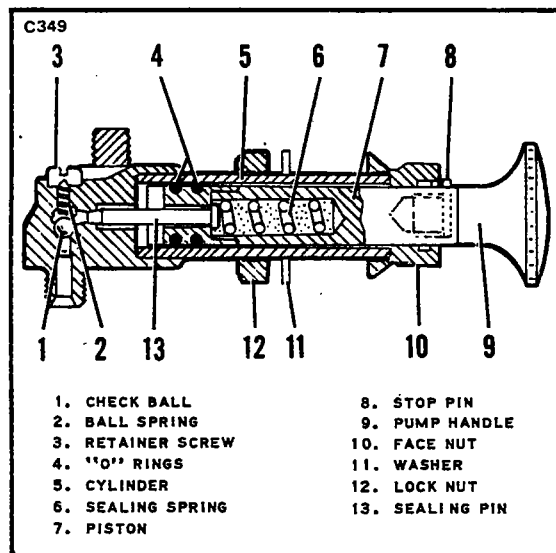

Figure 9-13. Engine Primer
9-51. REMOVAL OF ENGINE PRIMER (Refer to Figure 9-13).
9-52. DISASSEMBLY, CLEANING, AND ASSEMBLY OF ENGINE PRIMER (Refer to Figure 9-13).
- 9-53. INSTALLATION OF ENGINE PRIMER PUMP. (Refer to Figure 9-13.)
- a. Remove the pump handle (9) and piston (7) by unscrewing the knurled face nut (10), if previously installed.
- c. Insert the piston into the cylinder (5) and tighten the knurled face nut.
- d. Position the primer and tighten the locknut (12) on the cylinder behind the panel.